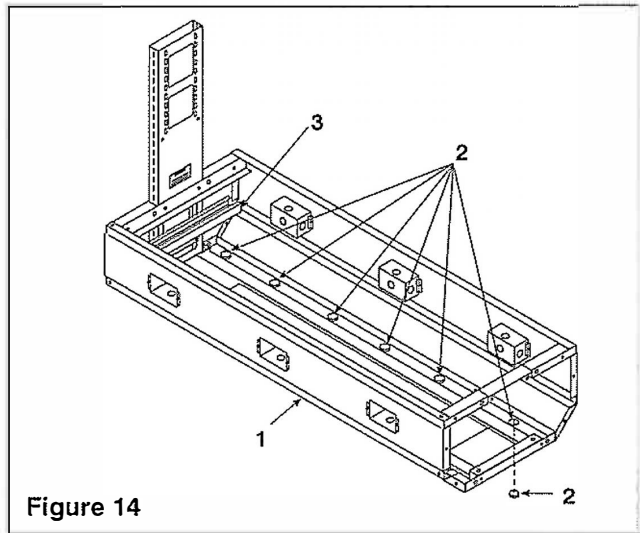

Figure 14
2. Wire up all the electrical outlets (2) and light assemblies (3). (Refer to Fig. 14)
4. Plumbing lines may also be run down into and exited from the bottom of the carrier unit (1) by removing as many small access caps (2) as needed.
5. Piping may be run to as many carrier units as required and anchored to the optional pipe support brackets (3) if used.